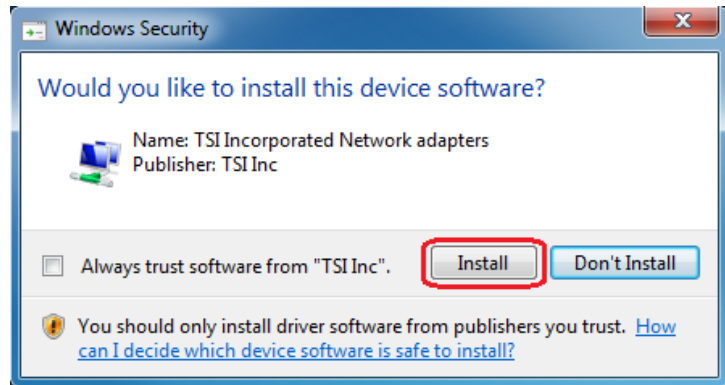
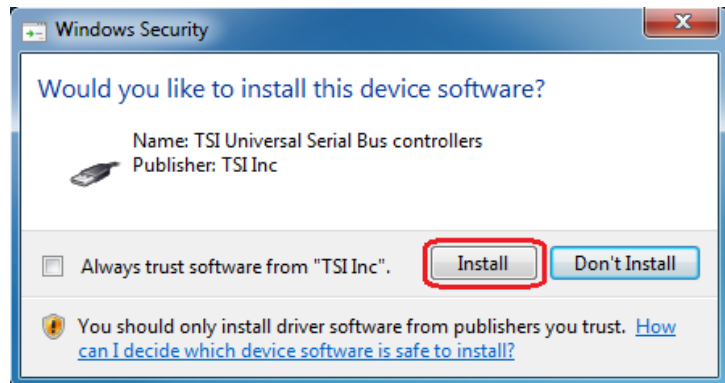

Figure 6
Figure 7
- Two Driver install confirmation screens may appear. If so, select the **Install** buttons (Figure 6 and Figure 7).